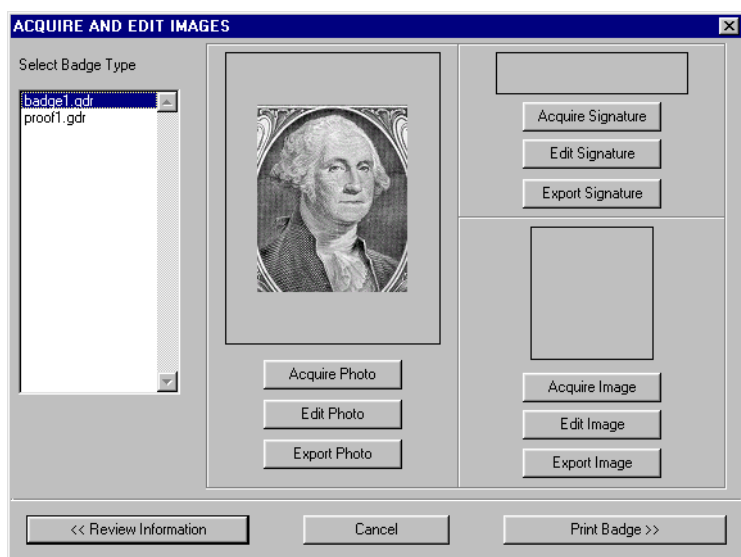

Figure 24: Acquire and Edit Images Window with Cardholder Photo
7. If you are satisfied with your adjustments, click the  button. The Acquire and Edit Images window appears with the cardholder photo displayed (see Figure 24).
12. By default, the exported cardholder photo file is saved in the same folder with the original cardholder photo. If the photo file should be saved in a different folder, click the  at the right side of the “Save in” field. Navigate through the folders in the host computer’s hard disk drive until you locate the desired folder. Click the  button. The cardholder photo file is exported and the Acquire and Edit Images window reappears (see Figure 24 on page 19).